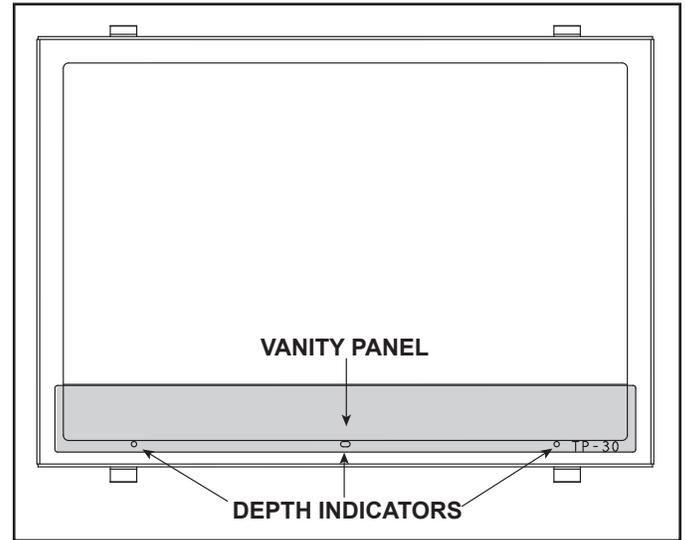

Figure 4. Vanity Panel - Tudor Panel Front
1. Insert the bottom vanity panel between the glass frame and the glass at the bottom of the appliance as shown in Figure 4.